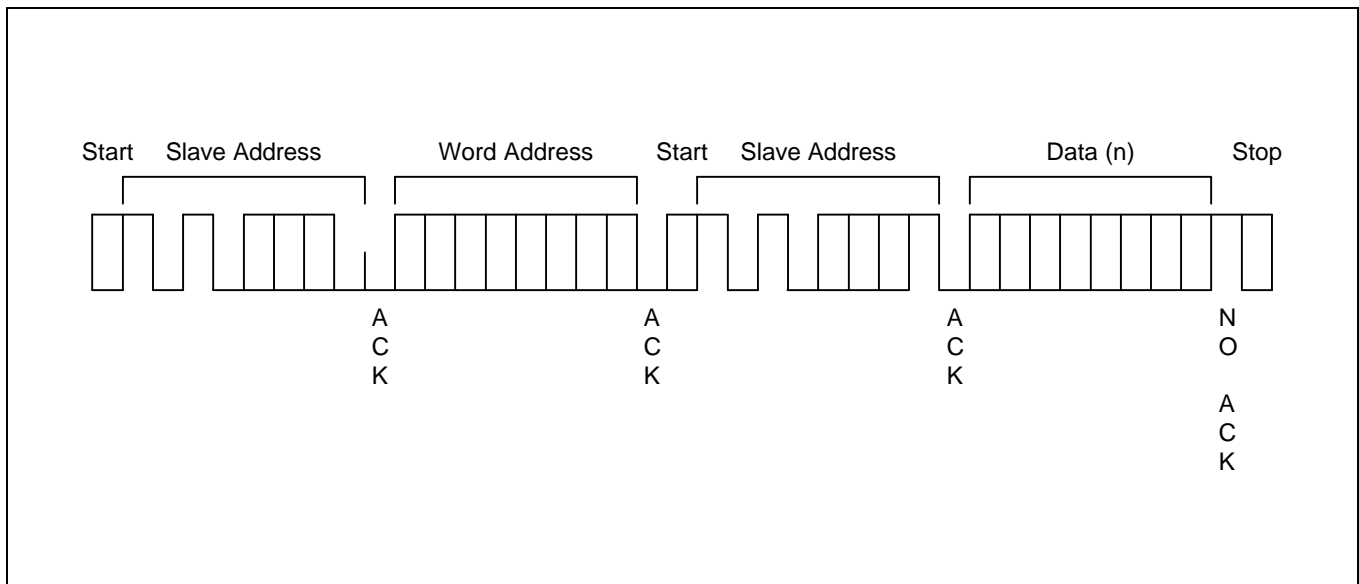

Figure 1-13. Random Address Byte Read Operation
5. In response, the KS24A011/021/041/081/161 stops transmitting data and reverts to its stand-by mode (see Figure 1-13).